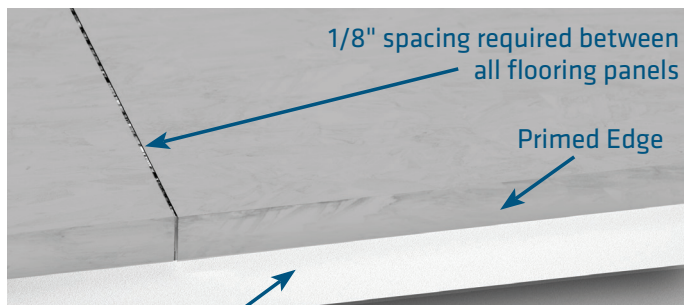

Figure 1
- Panels must be installed with 1/8" spacing between all flooring panels (see figure 1).